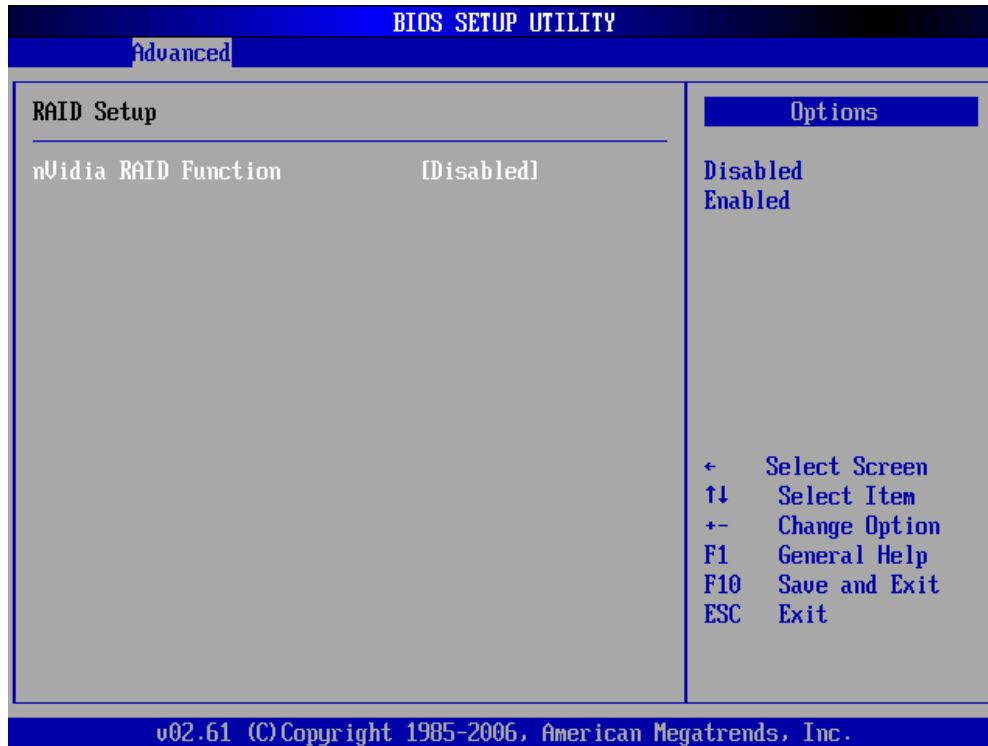

Figure 7-1: NVIDIA RAID Setup
Step 6: The menu in **Figure 7-1** appears
Step 7: Enable the NVIDIA RAID function in the menu shown in **Figure 7-1**.